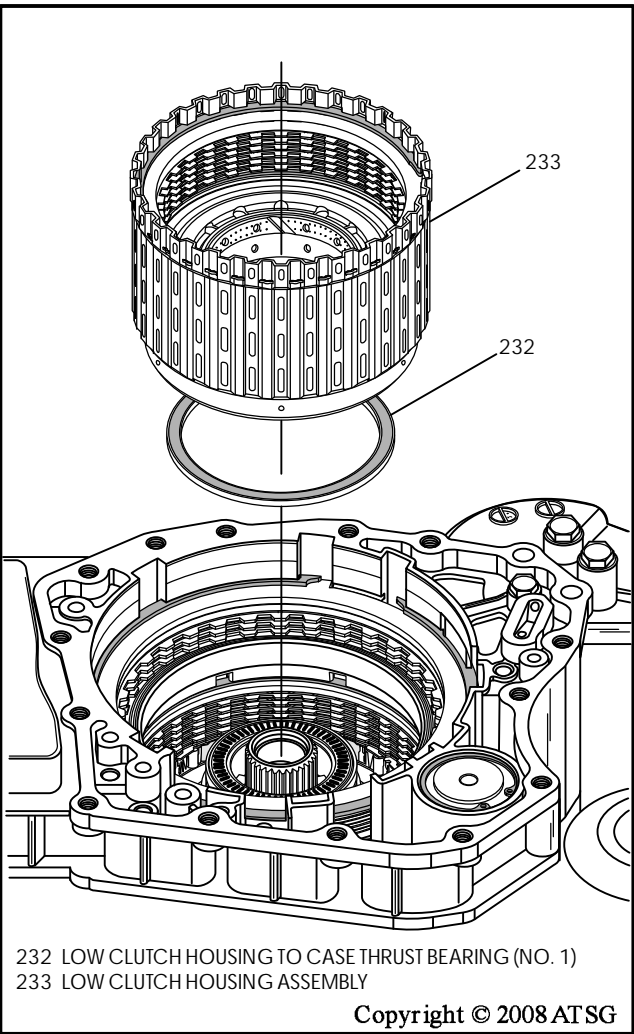

Figure 197
21. Ensure that number 1 thrust bearing is still in place on the back side of low clutch housing, and install the low clutch housing by rotating back and forth to engage all low/reverse clutch friction plates and low roller clutch, as shown in Figure 197.